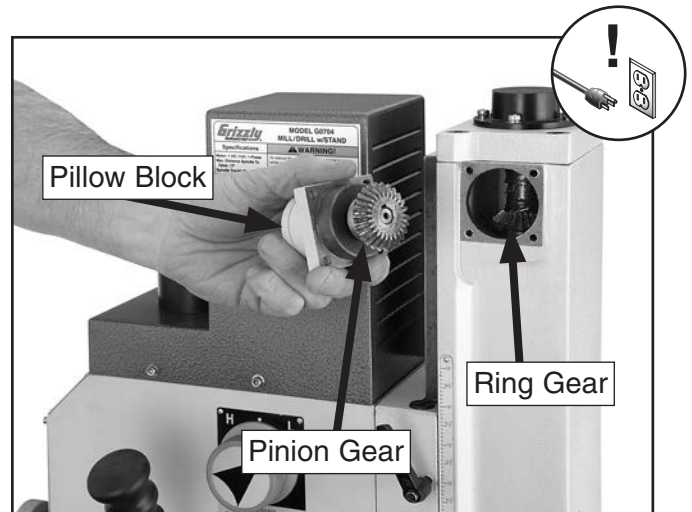

Figure 54. Handwheel gears.
6. Remove the four cap screws that secure the handwheel shaft pillow block, then carefully remove the assembly (**Figure 54**).